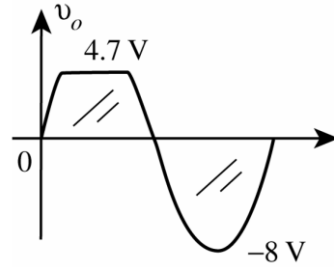

Figure 8
Step 3: The positive part will appear at the output till $v_i < V + V_K$, $v_i < 4.7$, while all the negative part will appear at the output, the resultant v_o is redrawn as shown in Figure 8.